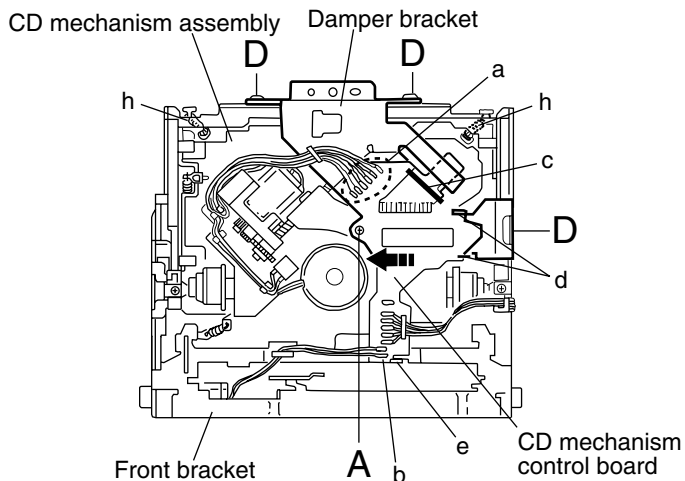

Fig.1
■ Removing the front panel assembly (See Fig.1)
■ Removing the CD mechanism control board (See Fig.1 and 2)
(See Fig.1, 6 to 9)**